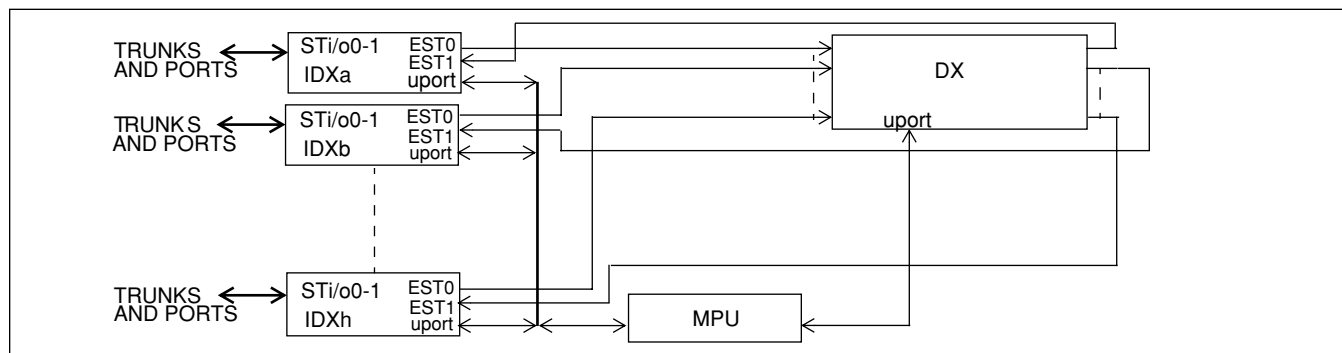

Figure 5 - Eight IDX Configuration using Expansion Bus TDM Link mode
This mode allows linking larger matrices of MT90812 devices together. For example, at 2.048 Mb/s, eight MT90812 devices can be connected together via a MT8980D (DX) switch, as shown in Fig. 5.